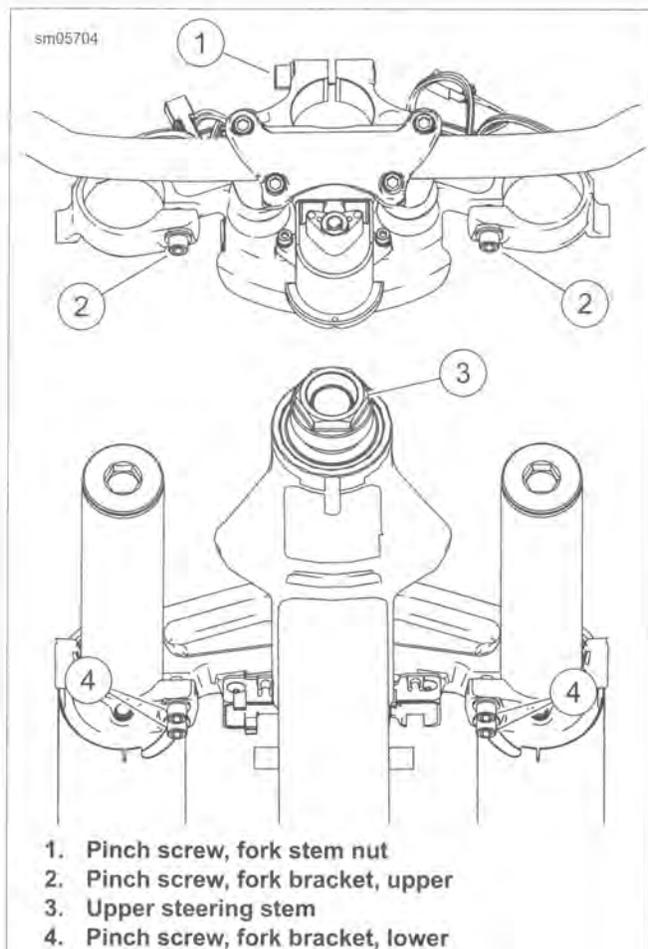

Figure 2-71. Fork Stem and Brackets
3. See Figure 2-71. Loosen pinch screw (1).
4. Loosen pinch screws (2). Do not loosen pinch screws (4).
3. See Figure 2-71. Place upper fork bracket with handlebar over ends of forks and onto upper steering stem.